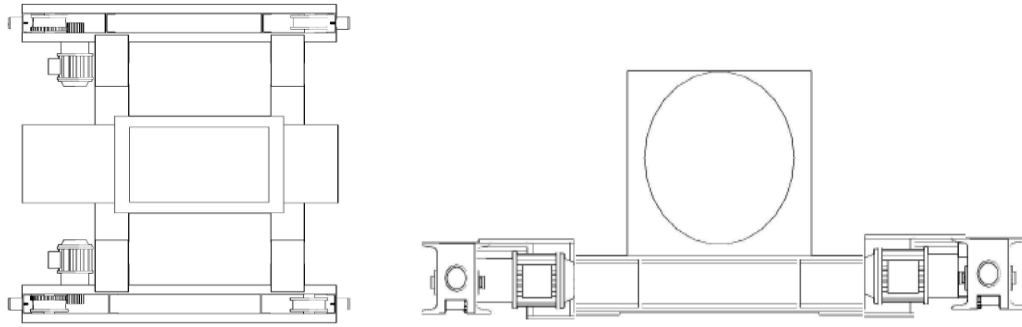

Figure 3.3.3
- Lifting mechanism and trolley for a double girder bridge (Figure 3.3.3)
Double rail ( Double Girder) trolley (Figure 3.3.3).